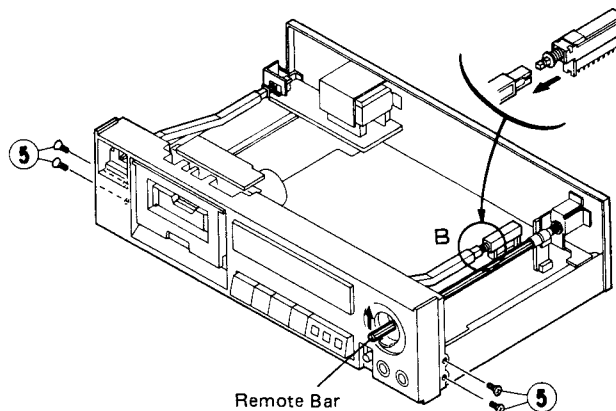

Fig. 2-3
- 8) Push the INPUT VOLUME remote shaft upwards to make it free from engagement (see Fig. 2-3).
- 9) The CD DIRECT switch remote bar can be removed at the position (B) shown in the figure (see Fig. 2-3).